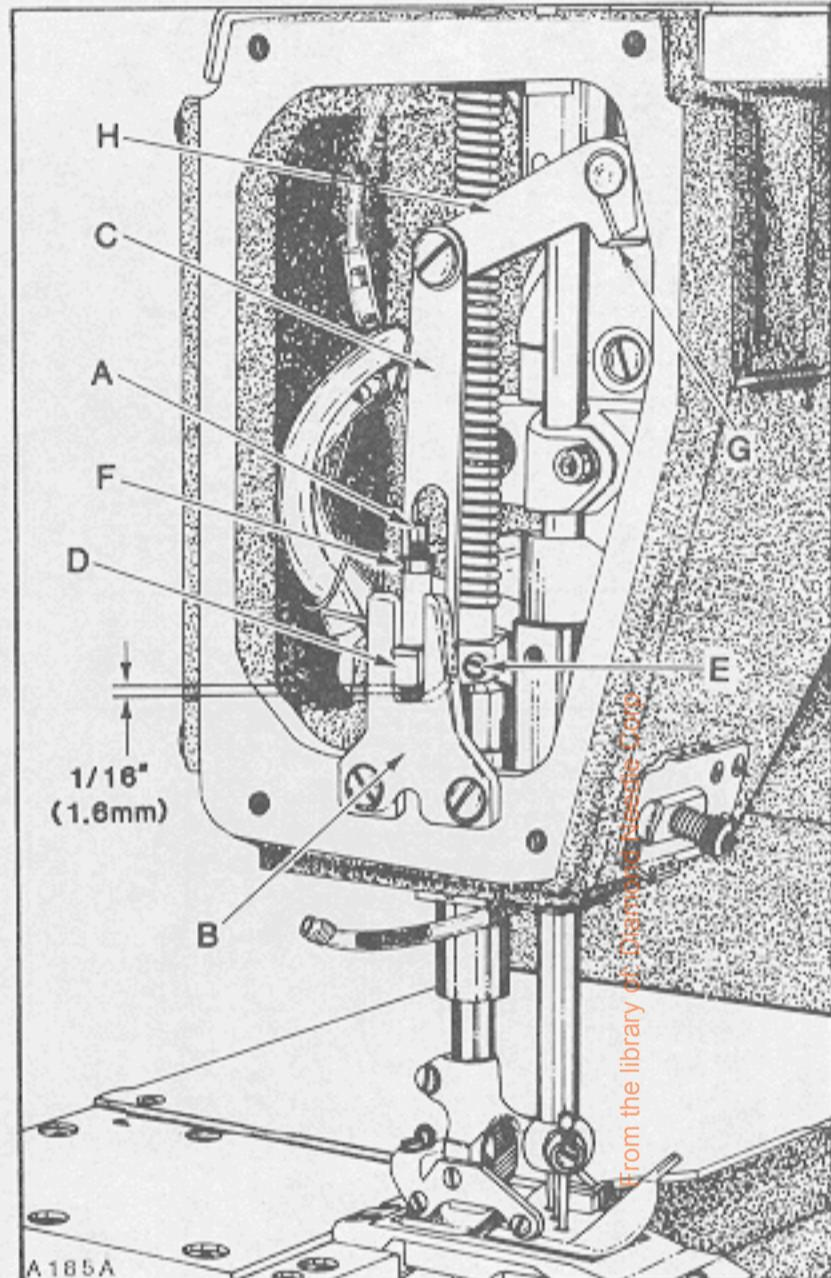

Fig.20
With needle bar at bottom of stroke and presser foot resting squarely on throat plate, there should be a minimum clearance of $1/64$ inch (.4mm) between the bottom of screw (A, Fig. 20) and bottom of slot in presser bar guide plate (B). At this time, there should be at LEAST $1/32$ inch (.8mm) clearance between bottom of presser bar guide and top of lower presser bar bushing. There should also be $1/16$ inch (1.6mm) clearance between bottom of slot in lifter lever link (C) and bottom of presser bar guide (D) when foot lifter lever is released. If adjustment is required, proceed as follows: